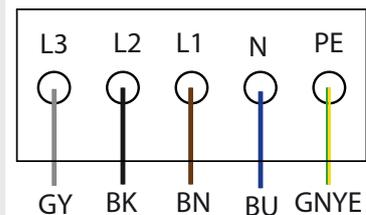

Figure 15: AC connection terminals
- 6. Connect wires in accordance with the labels on the PCB terminals (Figure 15).